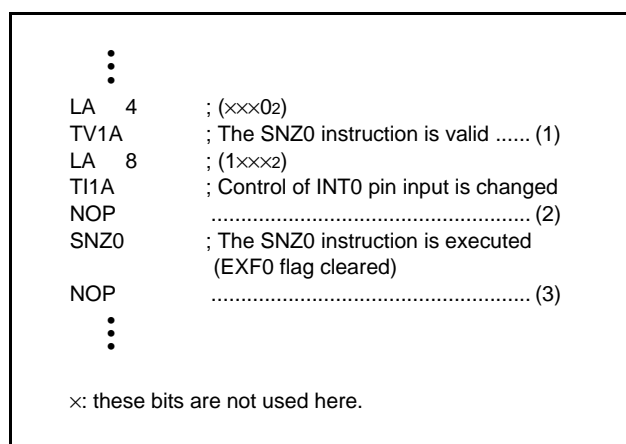

Fig 55. External 0 interrupt program example-1
- Depending on the input state of the P20/INT0 pin, the external 0 interrupt request flag (EXF0) may be set when the bit 3 of register I1 is changed. In order to avoid the occurrence of an unexpected interrupt, clear the bit 0 of register V1 to "0" (refer to (1) in Figure 55) and then, change the bit 3 of register I1. In addition, execute the SNZ0 instruction to clear the EXF0 flag to "0" after executing at least one instruction (refer to (2) in Figure 55).
Also, set the NOP instruction for the case when a skip is performed with the SNZ0 instruction (refer to (3) in Figure 55).